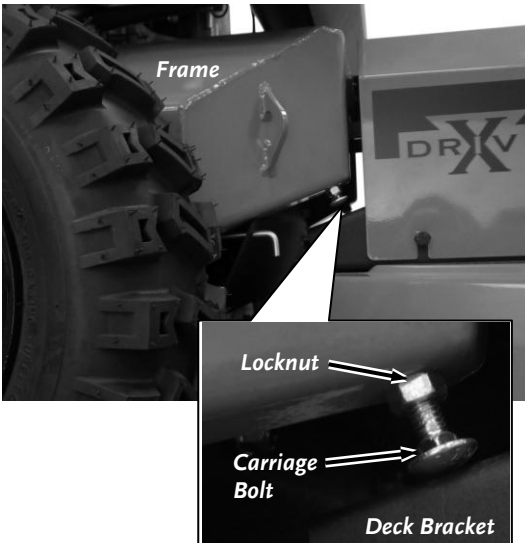

Figure 27
1. Hold the square portion of the Carriage Bolts using a 5/16" Wrench and loosen both Locknuts from against the Frame using a 1/2" Wrench (Figure 27).